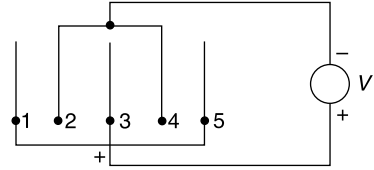

Fig. 2.31 Circuit of Ex. 2.19
2.19 If capacitance between adjacent parallel plates be C , find the total capacitance in the system shown in Fig. 2.31.